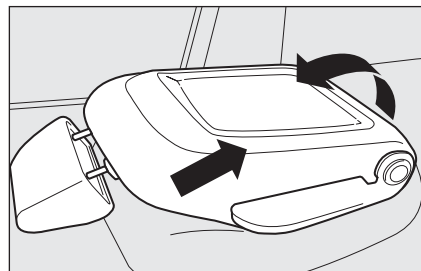

fig. 46
- push the rear seat forward as far as it will go **fig. 46**;